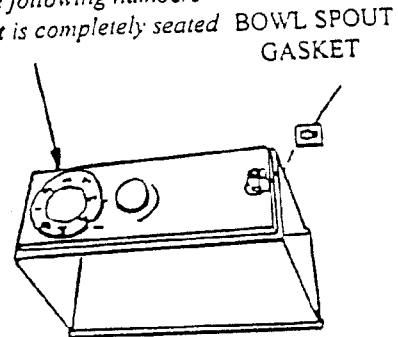

Fig. 2
3. Turn bowl upside down and insert gasket into groove. Wet gasket for ease of insertion, pressing gasket into groove while following numbers (see Fig. 2).